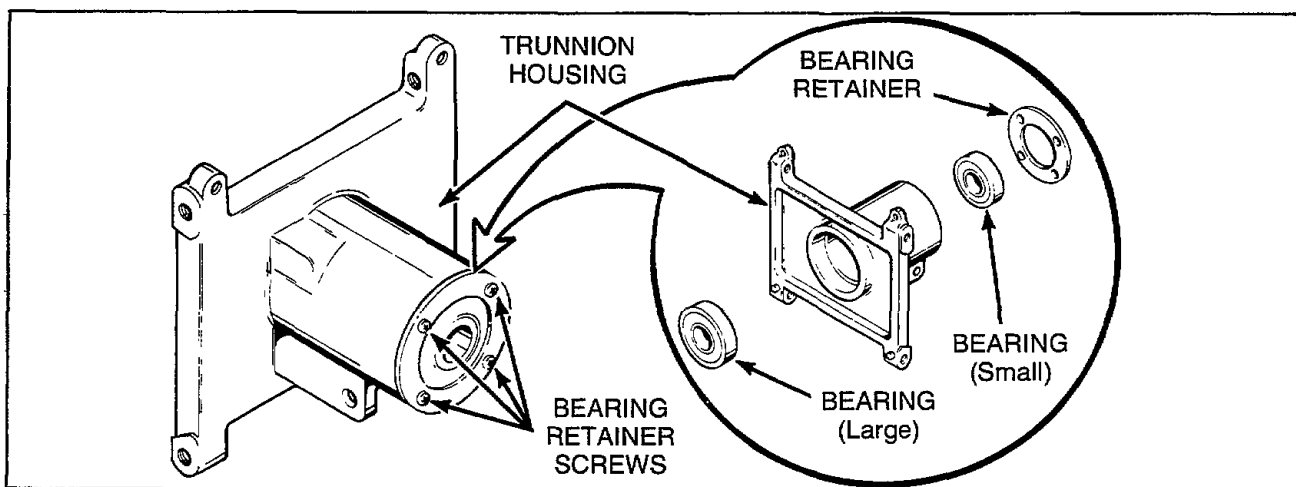

Figure 24
- e. Remove the four bearing retainer screws holding the small bearing in housing, *Figure 24*.